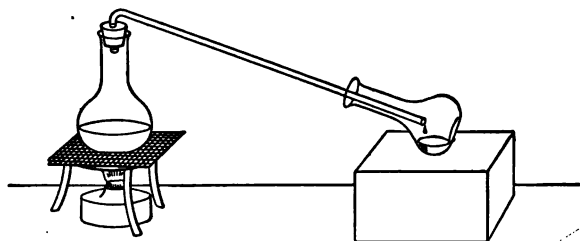

FIG. 30.
M. In different ways. We will do it in the simplest way first. I put a cork with a hole in it into this thin-walled flask, and by this means attach a tube to the flask which is rather sharply bent over. I pour my black water into the flask, and heat it till it boils (Fig. 30).